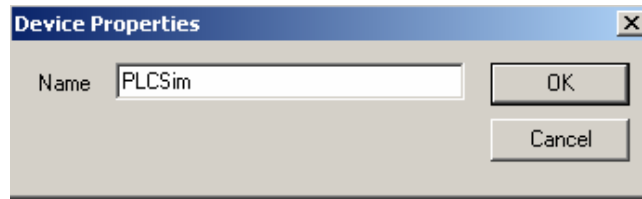

Figure 4.3. Device Properties
2. In the **Device Properties** dialog, type in the name "PLCSim" and then click **OK**, as shown in **Figure 4.3**. The new **PLCSim** device will appear in the tree control of the Configurator.